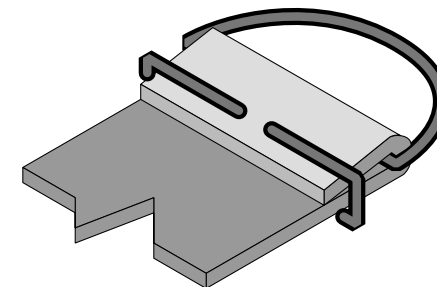

Figure 10: D rings for straps made from re-bar.
- 10) Next make up the three straps to hold the saddles onto the donkey. D rings at the end of the straps can be made from R6 ie 6 mm diameter bar as shown in Figure 10. A separate piece of R6 is clenched over the strapping using hammer blows to fix the D rings to the ends of the straps as shown.